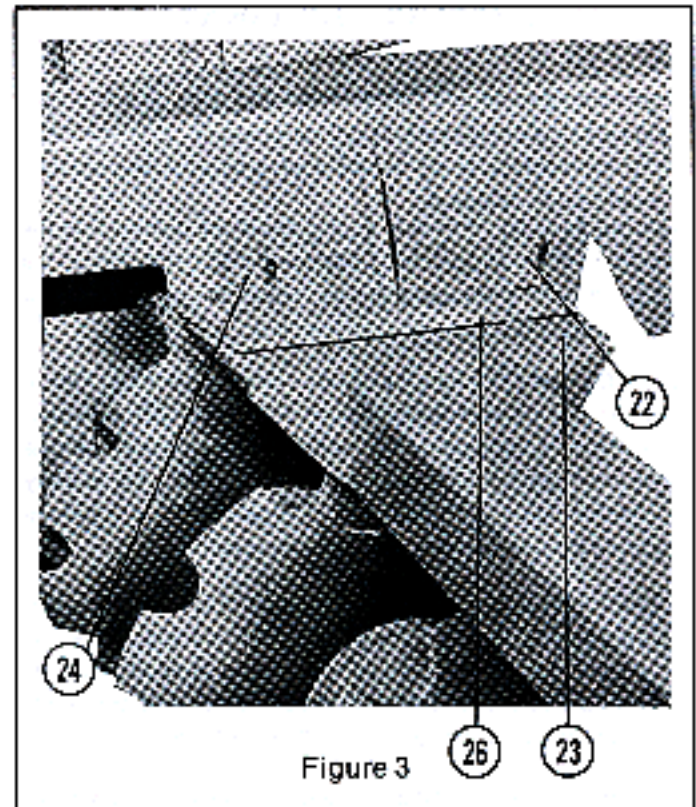

Figure 3
- 3. Offsetting Rear Gang Bar:** (Refer to Figure 3) for ordinary conditions bolt(22) should be in the centre of lateral plate(23). When using disc as a double wide unit the rear gang bar is adjusted to maximum width to fill furrow. Remove two bolts(22), loosen bolt where slots are(24), adjust laterally then retighten all bolts.
- B. Side to Side Levelling:** (Refer to Figure 3) In general, adequate levelling from side to side may be obtained by placing levelling washers(26) between angling plate on frame and gang bar. levelling washers are always used on narrow side(N) of disc only.